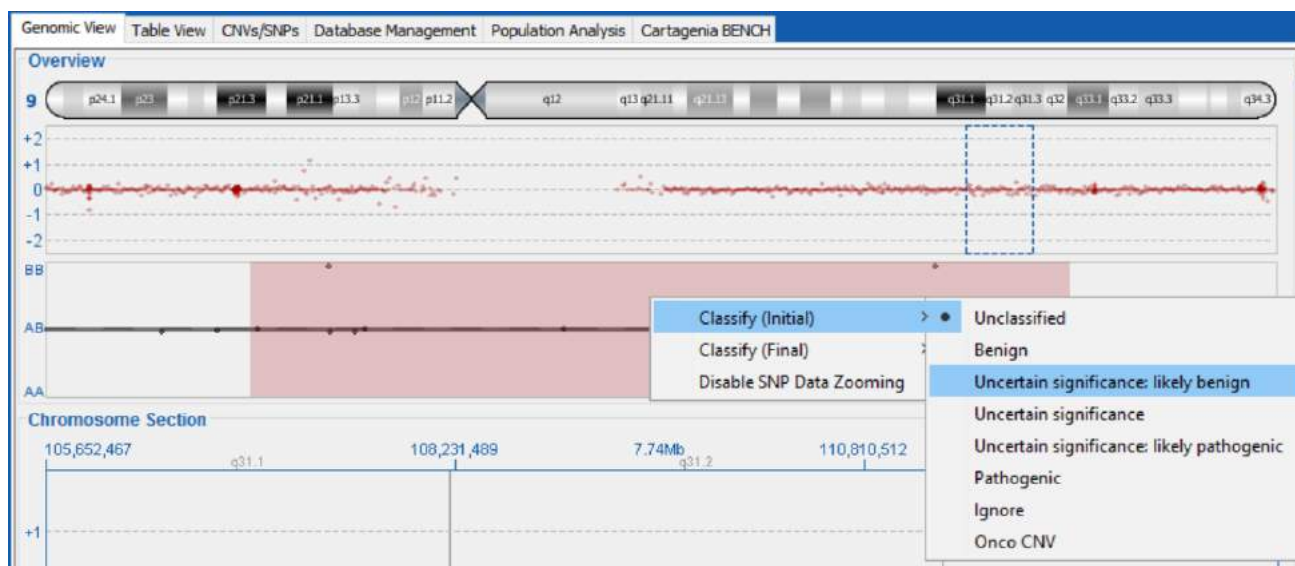

Figure 43: Classification of an aberration from the Allele Status plot.
- b. Right-click on an aberration in the **Chromosome Section** or **Allele Status / B-Allele Frequency** plot and select **Classify (Initial/Final)** from the option menu, followed by the classification of choice. See Figure 43 for an example.